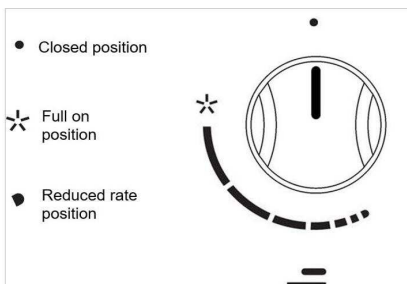

FIG. 1
- Push the knob of the burner fully down and turn it in an anticlockwise direction until it reaches the "Full on position" (large flame in FIG. 1 ☆).